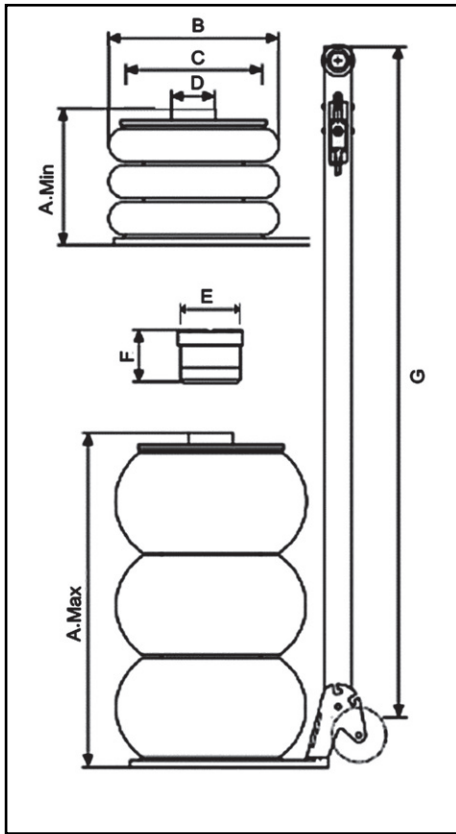

Fig. 01
**1. Technical Data (Fig.01)**